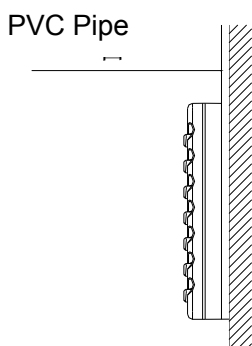
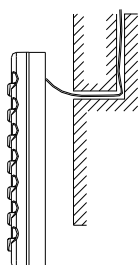

Fig 6 Surface Mounting of Cable
Fig 7 Concealed mounting of Cable
Connect the joints for swing flap motor lead wire (at 2 places) installed on the panel (Refer to Fig.7)
- 2、If the communication line between the wire controller (85 × 85 × 16) and the indoor unit is surface-mounted, use 1# PVC pipe and make matching recess in the wall (refer to Figure 6); If concealed installation is adopted, 1# PVC pipe can be used (Refer to Figure 7).